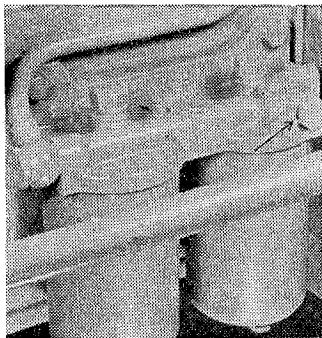

Fig. 29
- (2) Dismount and repair of the reduction valve of the lubrication circuit (Fig. 29):